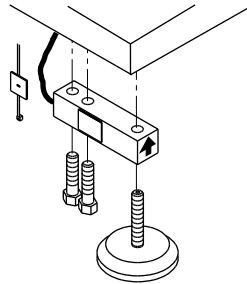
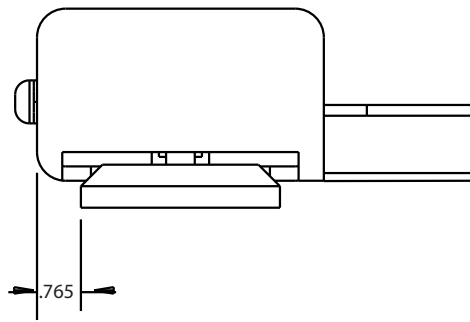

Figure 4-1. Load Cell Assembly
Figure 4-3. Foot Pad - Side View
4. Position load cells with alignment arrows pointed up toward the deck and loosely install the hex head cap screws provided, as shown in Figure 4-1 on page 15. If the base is used with an access ramp, position the load cell to maintain the dimension shown in Figure 4-3 on page 16. With the torque wrench, tighten all bolts to 75 ft-lbs.